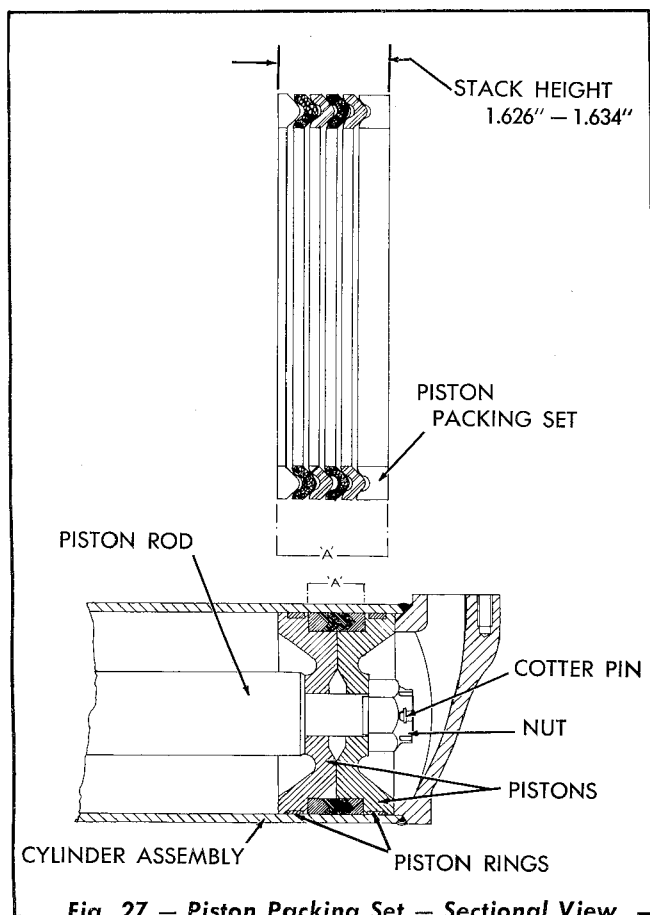
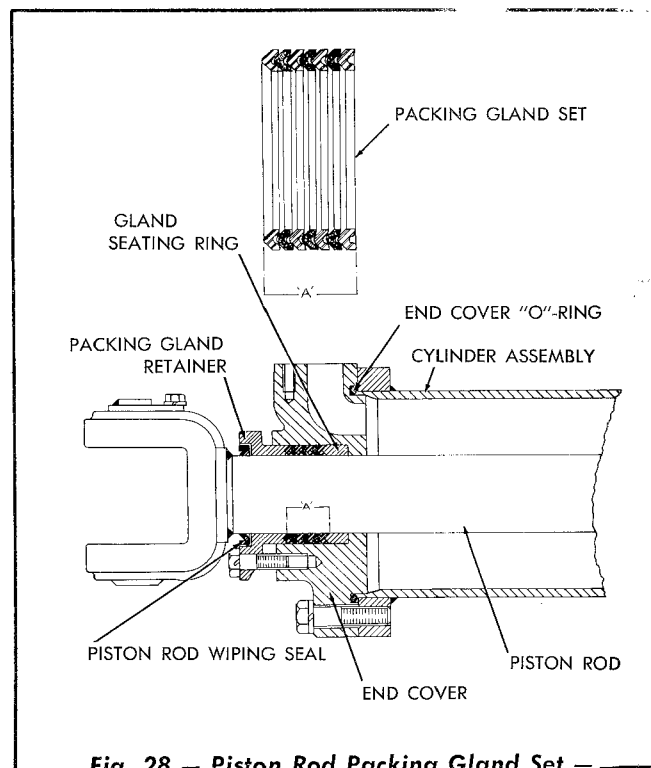

Fig. 27 — Piston Packing Set — Sectional View
Fig. 28 — Piston Rod Packing Gland Set — Sectional View
The piston in each hydraulic cylinder is of the two piece type and is retained on the upper end of the piston rod by a castellated nut and cotter pin. A chevron type piston packing set and two one piece type piston rings are installed on the pistons as shown in Fig. 27. A chevron type packing gland set, a gland packing seating ring, and a piston rod wiping seal is installed in the piston rod packing gland retainer located at the lower end of each cylinder as shown in Fig. 28. A universal assembly is used to connect the lower end of each hydraulic cylinder piston rod to the dozer moldboard or the C-frame.
2. Install a new packing gland seating ring in position in the end cover, making certain that the chamfered end of the ring is toward the outside. Install a new packing gland set into the end cover as shown in Fig. 28. NOTE: Make certain that the split ends of the packing glands are staggered when installed in the end cover. Lubricate the packing glands and start the end cover onto the piston rod, using care to prevent damage to the packing glands.
4. Install the lower half of the piston on the piston rod, making certain that the counterbore in the piston is facing the yoke end of the piston rod. Place a new piston packing ring set onto the small diameter of the piston as shown in Fig. 27, then install the upper half of the piston onto the piston
rod and insert the small outer diameter of the piston into the packing ring set. Place a new piston ring in the groove of each piston. NOTE: Make certain that the piston ring packing set is installed on the pistons in the sequence shown in Fig. 27. Care should be taken so that each ring is properly seated and the edges are not doubled back or the ends lapped. Install nut on the piston, tighten the nut securely, and install the cotter pin.